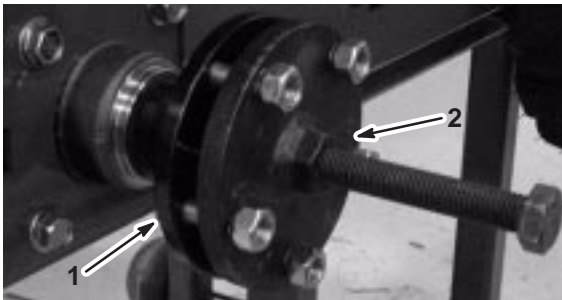

Figure 1
3. Using a hub puller (OTC part number TOR4096), remove the rear wheel hubs (Fig. 1).